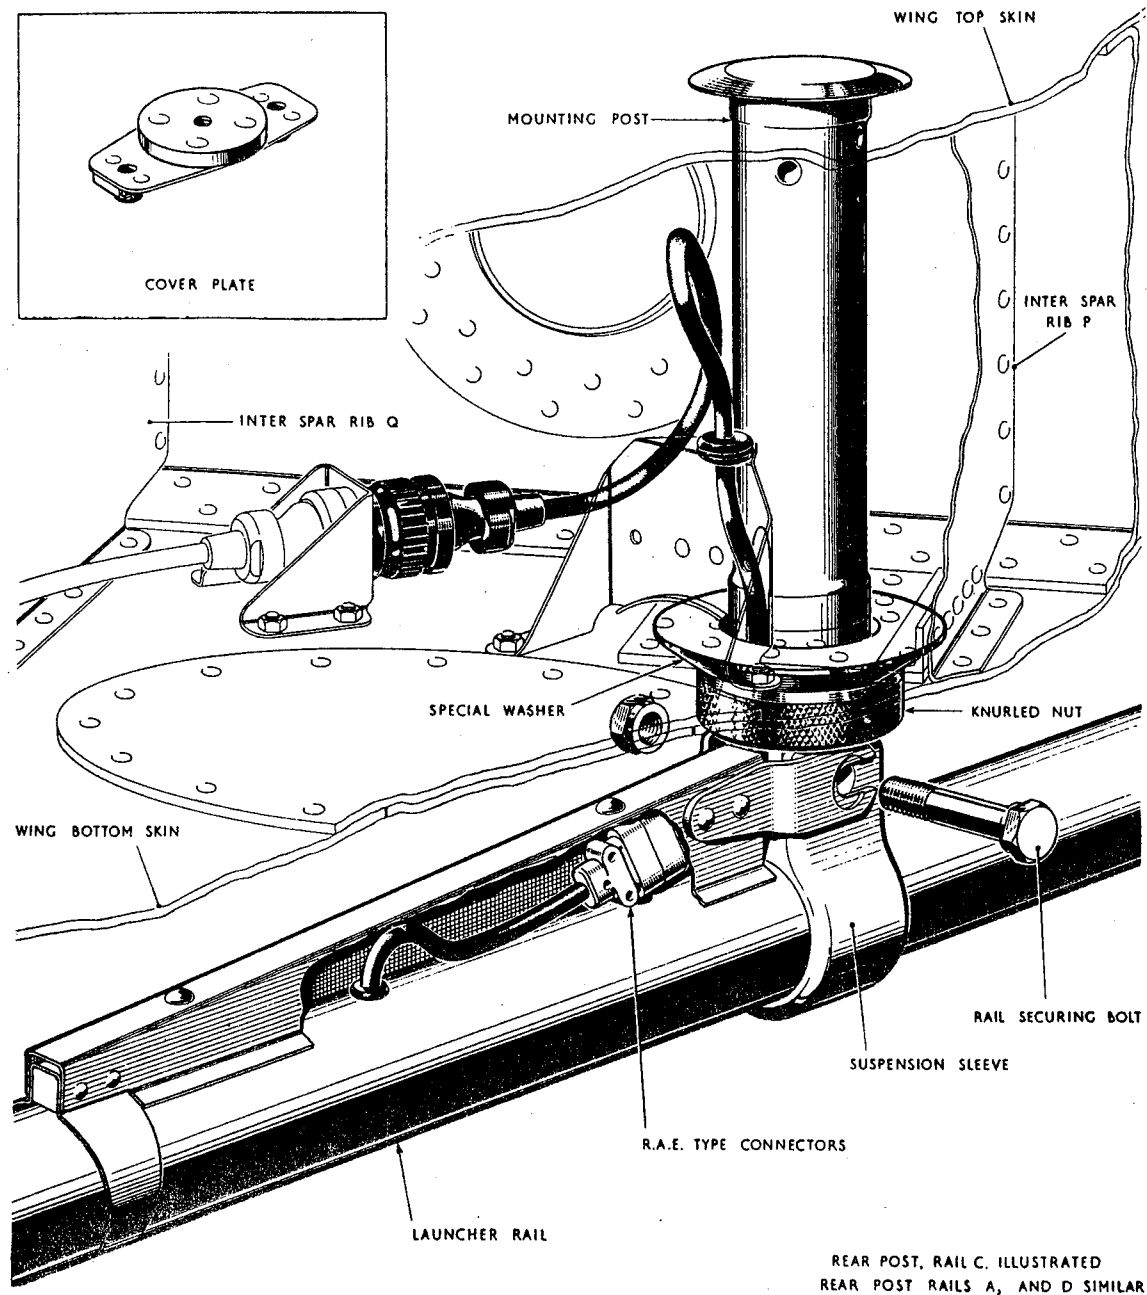

Fig.1 Launcher rail attachment - post mounted
Launcher rail mountings (fig. 1)
- (4) Tighten the bronze securing nuts by hand only.
- (5) Fit the launcher rails to the eye-ends of the posts, using the special H.T. steel bolts provided.
- (6) Make electrical connection by fitting the cable plugs into the sockets of the launcher (fig. 1) and fit the cable guards, which are secured by the rear post rail securing bolt.
- (7) Lock the knurled nuts with 22 s.w.g. S.S. wire. In the case of the front post the wire is passed through the hole located between the threaded portion of the bolt and the eye-end. In the case of the rear post, the wire is passed through the hole in the end of the H.T. steel bolt that secures the rail to the eye-end, the wire also serving to lock the nut of this bolt. The nut of the rail securing bolt in the eye-end of the front post must be locked with a split pin.